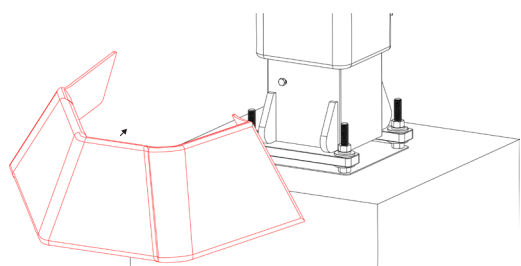

Figure 14A
**STEP 8:** ◦ Encase the bottom of the Base Pole with the Base Cover and secure the velcro. See Figure 14A - 16C.